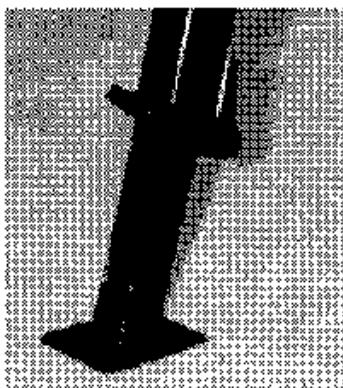

Fig. 4
4. Now release spring loaded, self-storing stabilizer jacks. Base of this jack is welded to frame. Grip jack and push toward center of camper approximately 5/8". It will require a fair amount of effort to release and swing down as in Fig. 4. Now extend the jack "foot" by pushing it to the ground. More tension can be placed on the jack feet by using the long jack handle supplied in each unit. Ensure that too much force is not applied to the jack handle. Doing so may cause the holes in the jack legs to expand, breaking out the dividers and causing adjustment problems in the entrance door. One notch should be sufficient. **DO NOT** place excessive weight on these jacks as they are intended to stabilize, not support the camper. The camper should be level.